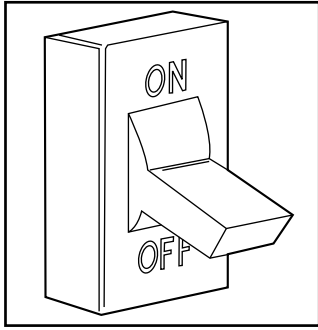

Fig. 17 - Turn Off Electrical Supply
3. Turn off electrical supply to the furnace. See Fig. 17.